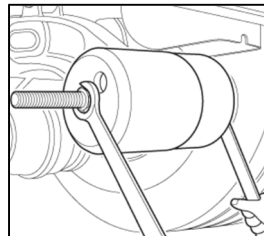

Fig. 12
14. Apply nut "A" to the bearing end. Continue turning the nut until the pivot bush is drawn completely into the funnel "D" (Fig. 12).